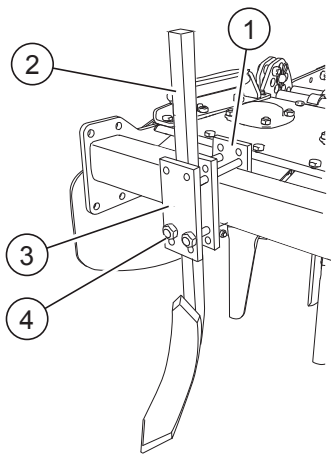

FIG. 15
Fit the track eradicator support (1, “Fig. 15”) onto the front bar. Insert track eradicator (2) between the plates (3). Adjust height from the ground. Tighten nuts (4).